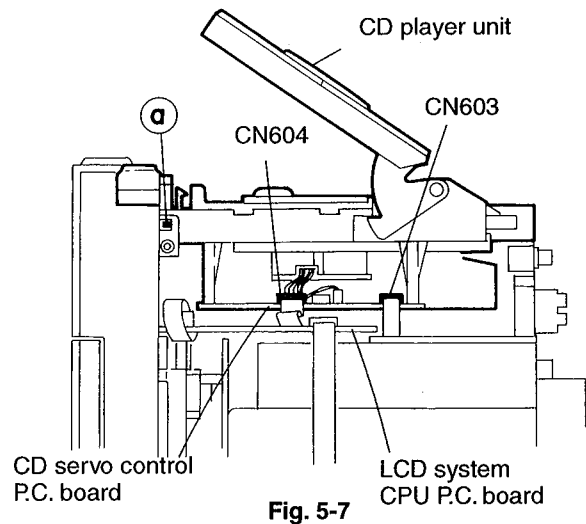

Fig. 5-7
(See Figs. 5-7 and 5- 8)
4. Disengage the left and right engagements (a) and (b) fixing the CD player unit by using a minus screw driver, etc. (See Figs. 5-7 and 5- 8).